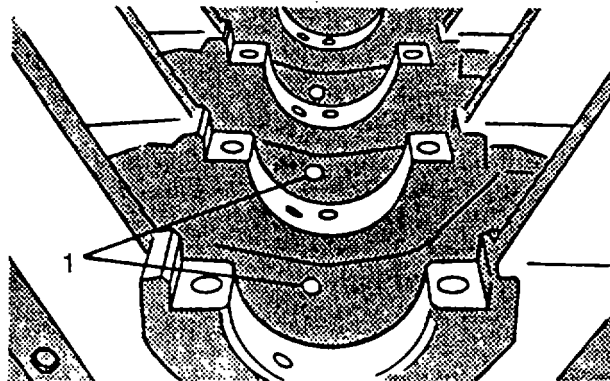

FIGURE 3-155. Inspecting piston Cooling Nozzles
- (1) Inspect each piston cooling nozzle (1, FIGURE 3-155) to make sure it is not plugged or damaged. Cooling nozzles deliver approximately 0.4 gallon per min (1.50 liters/min) oil flow.
- b. Install piston cooling nozzles, refer to FIGURE 3-155, and tighten to 84 in-lbs (9.5 Nm).